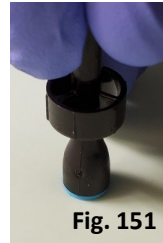

Fig. 151
3. Take the Low Pressure Seat (#12), and with clean, dry gloves, firmly press the shaft into the end of the Turbine Piston (#13). Do not lubricate the seat shaft. Use a flat surface to press the seat into place if necessary (Fig. 151). Ensure that the seat edges meet the piston on all sides.